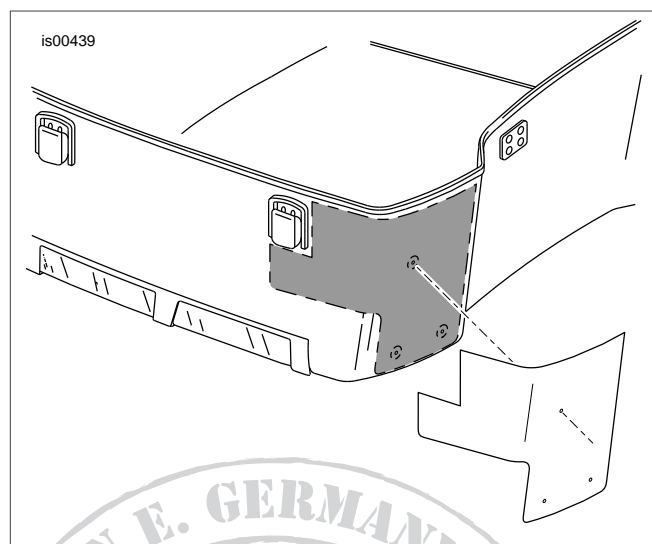
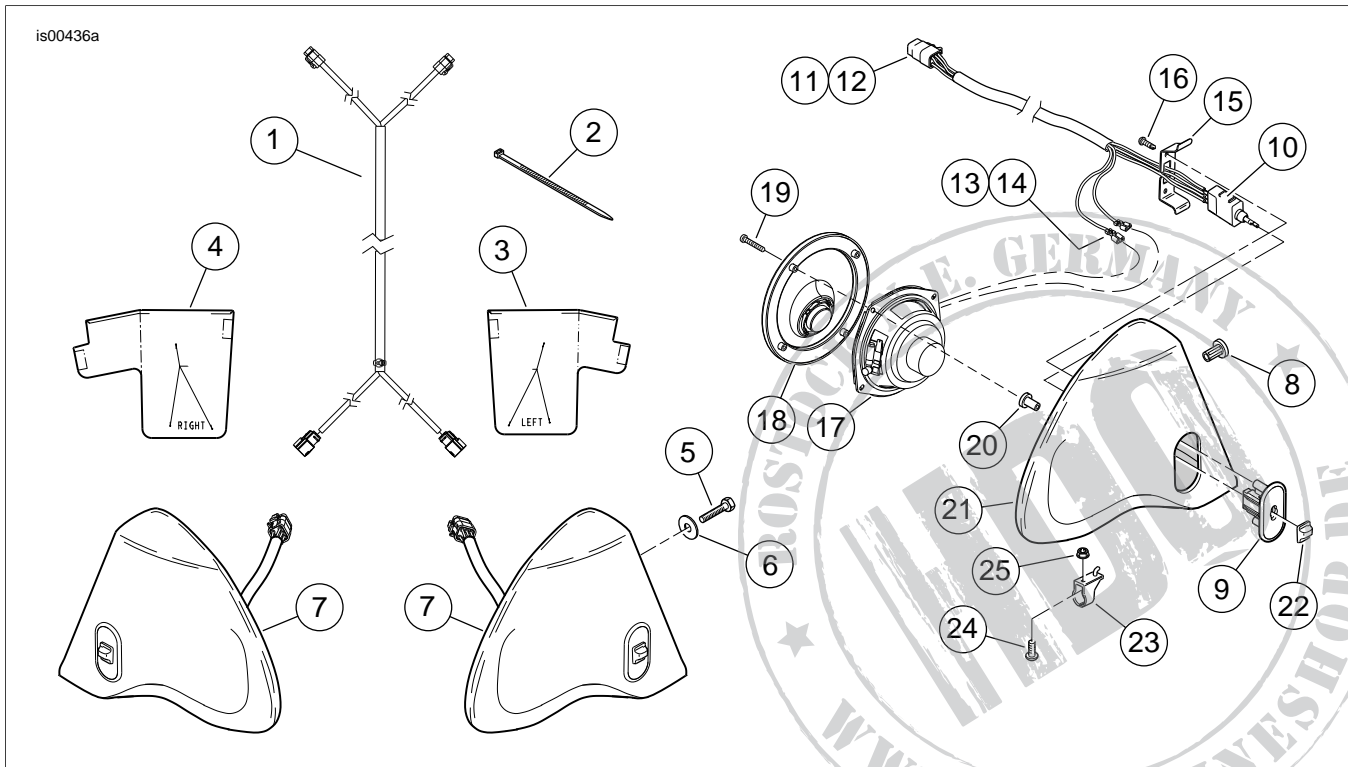

Figure 1. Template Positioning (Right Side Shown)
Figure 3. Service Parts: Rear Speaker Kit
5. See Figure 1. Position the the right-side template flat (Figure 3, item 4) onto the right front corner of the Tour-Pak.
6. Repeat the for the left-side template flat (Figure 3, item 3). Fit onto the left front corner of the Tour-Pak.
9. See Figure 3. Position the left-side speaker pod assembly (7) with the tether mounting bracket (23) against the left front corner of the Tour-Pak, aligning the three holes. Loosely assemble the speaker pod to the Tour-Pak with three bolts (5) and flat washers (6).
10. Position the right-side speaker pod assembly against the right front corner of the Tour-Pak, lining up the three holes. Loosely assemble the speaker pod to the Tour-Pak with the remaining bolts (5) and flat washers (6).
14. Inspect the socket housings on the two long branches at one end of the rear speaker harness (1).